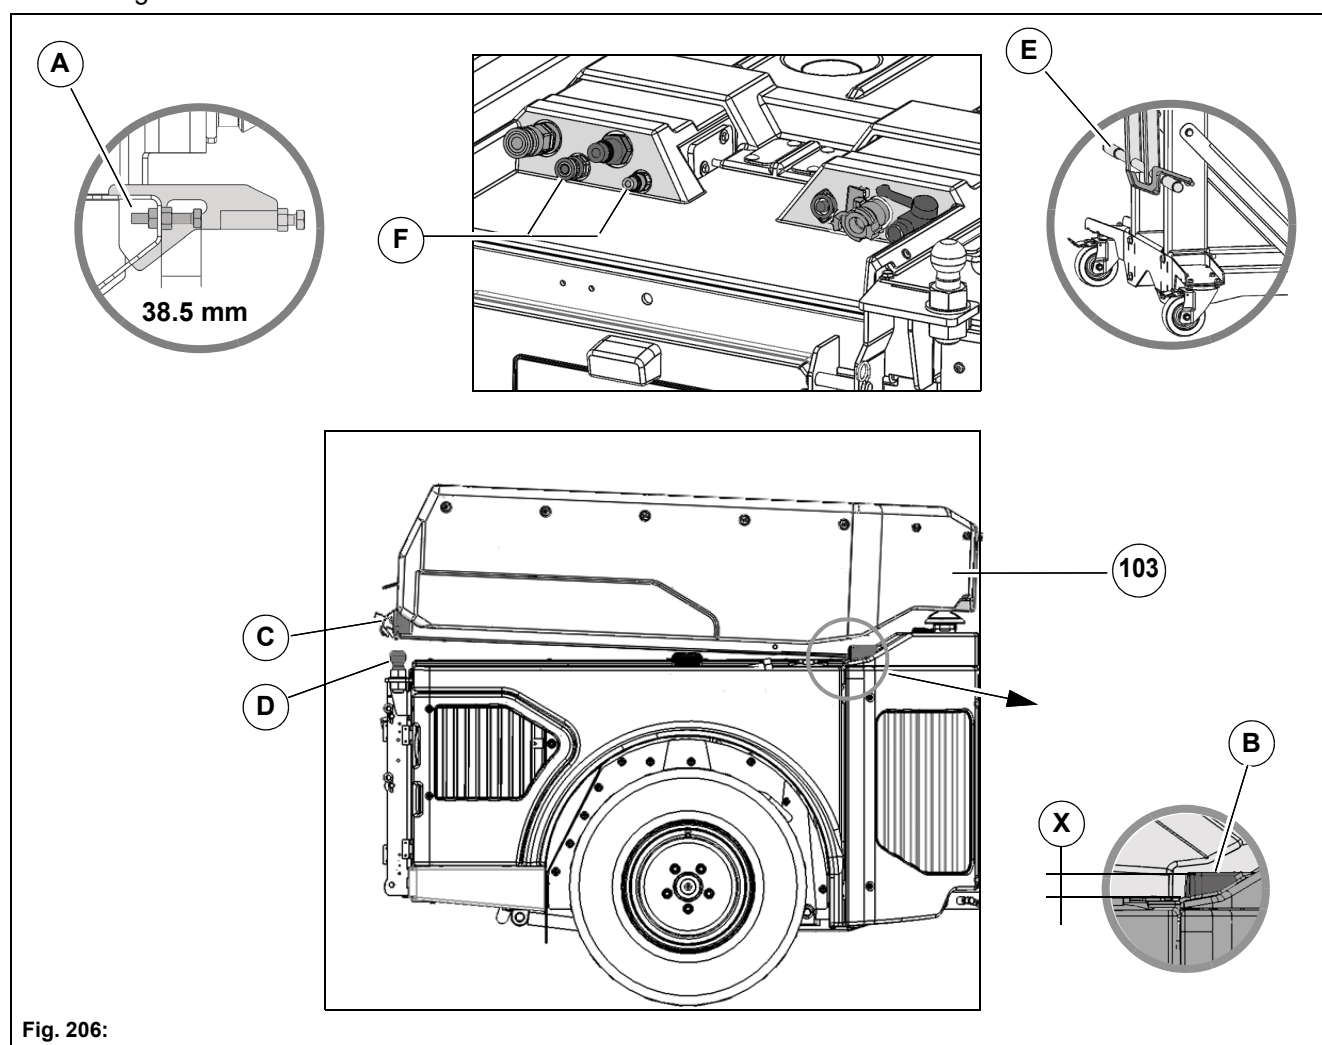

Fig. 206:
- Loading platform raising/lowering – Supply/return = **Fig. 206-F**